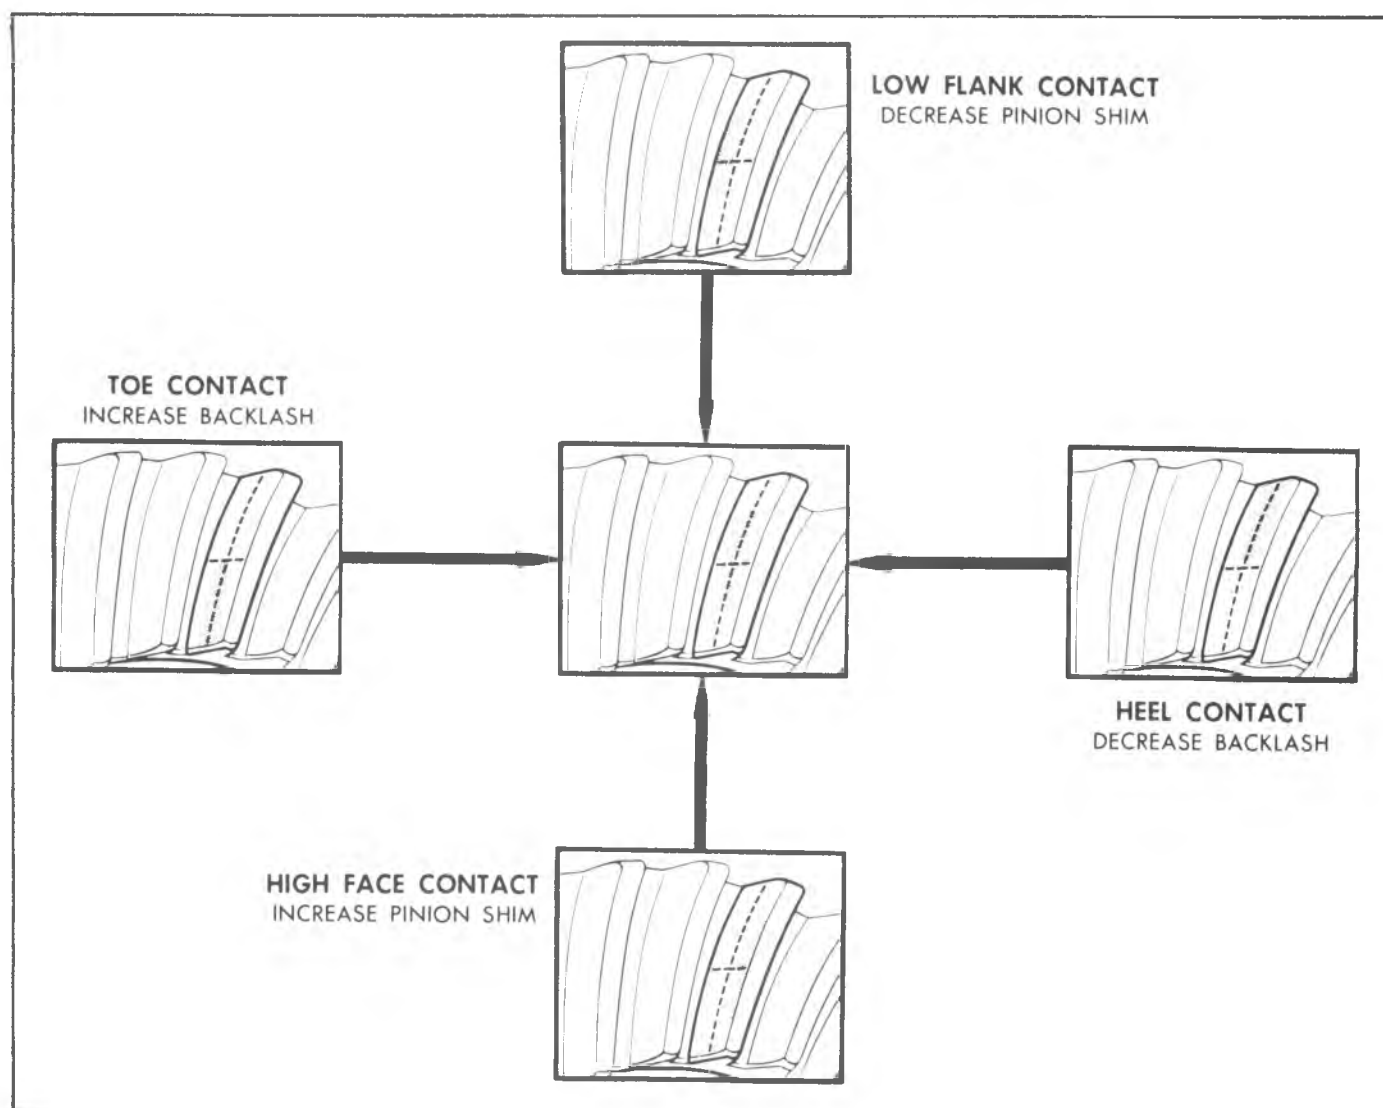

Fig. 27C—Gear Tooth Contact Pattern
5. Observe pattern on ring gear teeth and compare with Figure 27C.